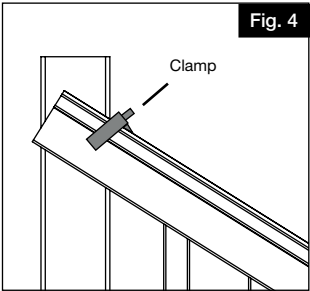

Fig. 4
- a. Place assembled stair railing section adjacent to mounted stair posts, leaving equal distances from the ends of both balusters and clamp your stair railing section to the posts (Fig. 4).